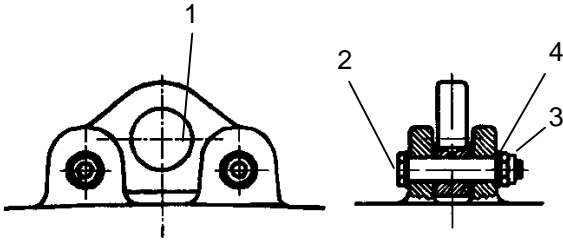

Figure 8
Refer to Figure 8. The suspension eye (1) is fitted on top of the chain hoist housing by means of two stud bolts (2) mounted in the four lugs provided.